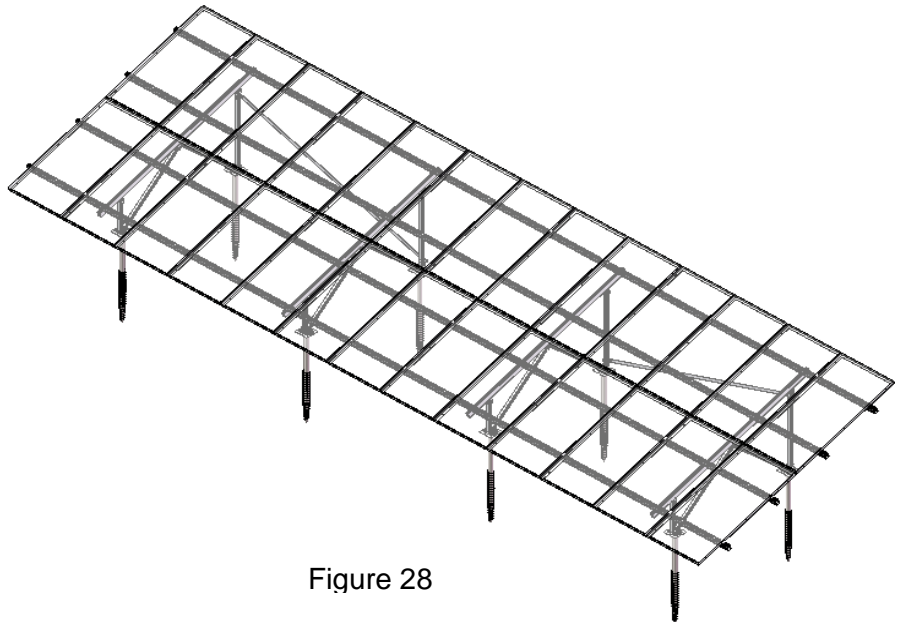

Figure 28
4.5.4 Now the installation of a single array is completed as shown in Figure 28.